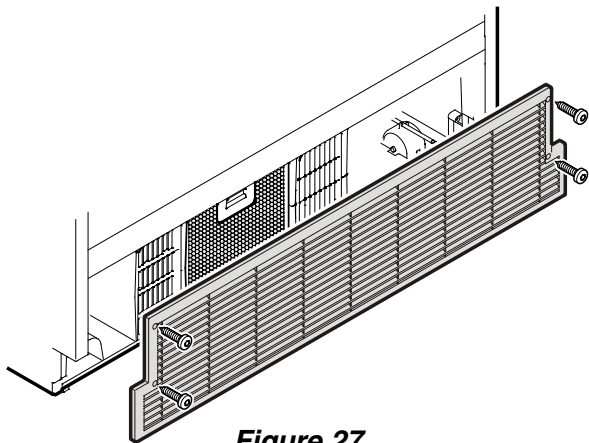

Figure 27
- Open the bottom freezer drawer and unscrew the ventilation grille - **Figure 27**.